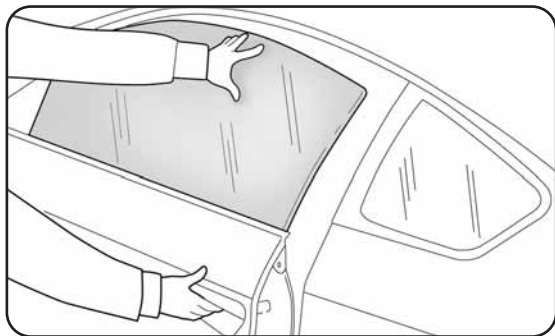

fig. 58
**IMPORTANT** With central locking on, operating the internal handle of one of the doors will unlock all the doors. If there is no power (blown fuse, battery disconnected, etc.) the doors can still be locked manually. As in this case the automatic window opening function is not available, to open or close the door with the window closed, apply pressure to the window towards the vehicle interior (see fig. 58), to aid the passage of the window against the trim.